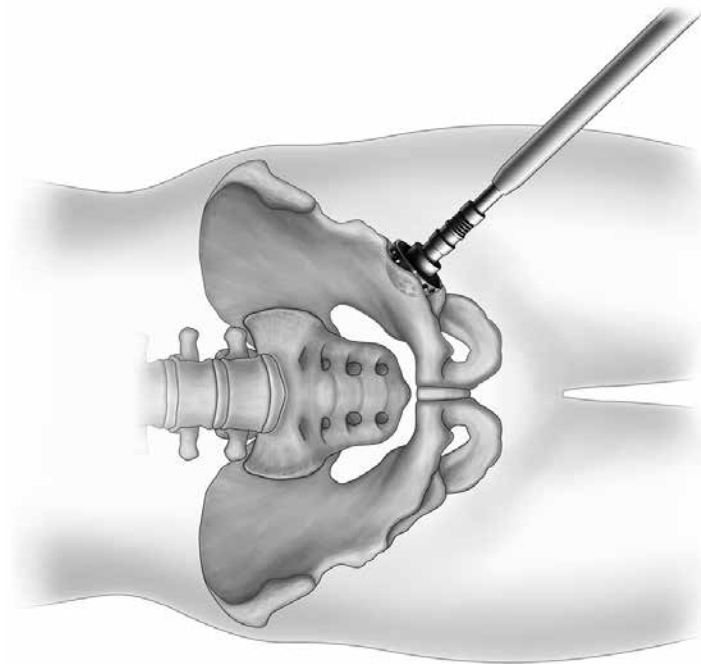

Figure 1
1. Assemble a hemispherical Acetabular Reamer approximately 4-6mm smaller than the size of the removed acetabular shell with either the straight or offset Reamer Handle and attach to power (Figure 1).